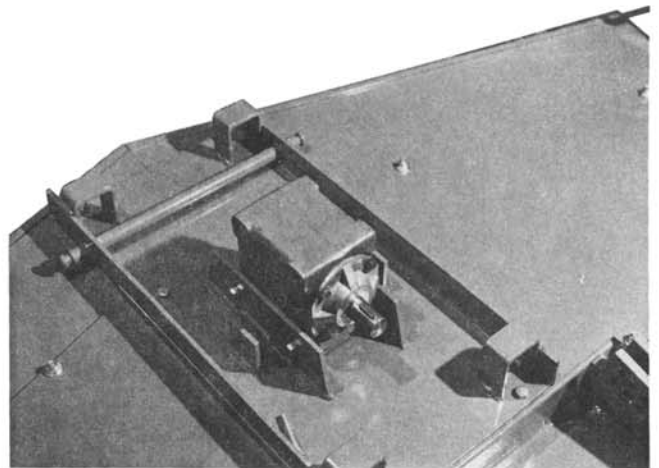

fig 10
12. Insert the woodruff key (item 14) in the slot of the drive shaft of the gearbox (item 11). See fig 10.